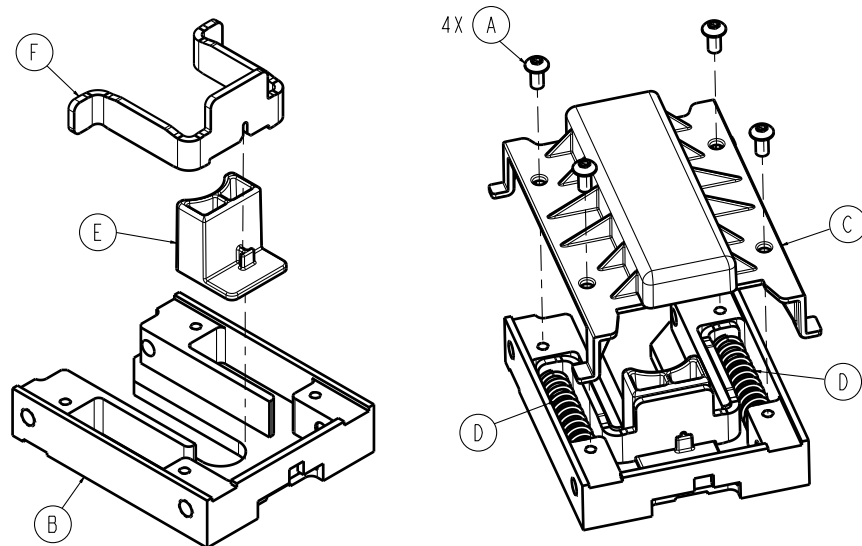

Figure 5 – Replacing the head end plunger
2. Using a T27 Torx driver, remove and save the four screws (A) that secure the pin enclosure (C) to the head end interface (B) (Figure 5).
3. Remove and save the two plunger springs (D) (Figure 5).
4. Remove and save the plunger bracket (F) (Figure 5).
5. Remove and discard the plunger (E) (Figure 5).